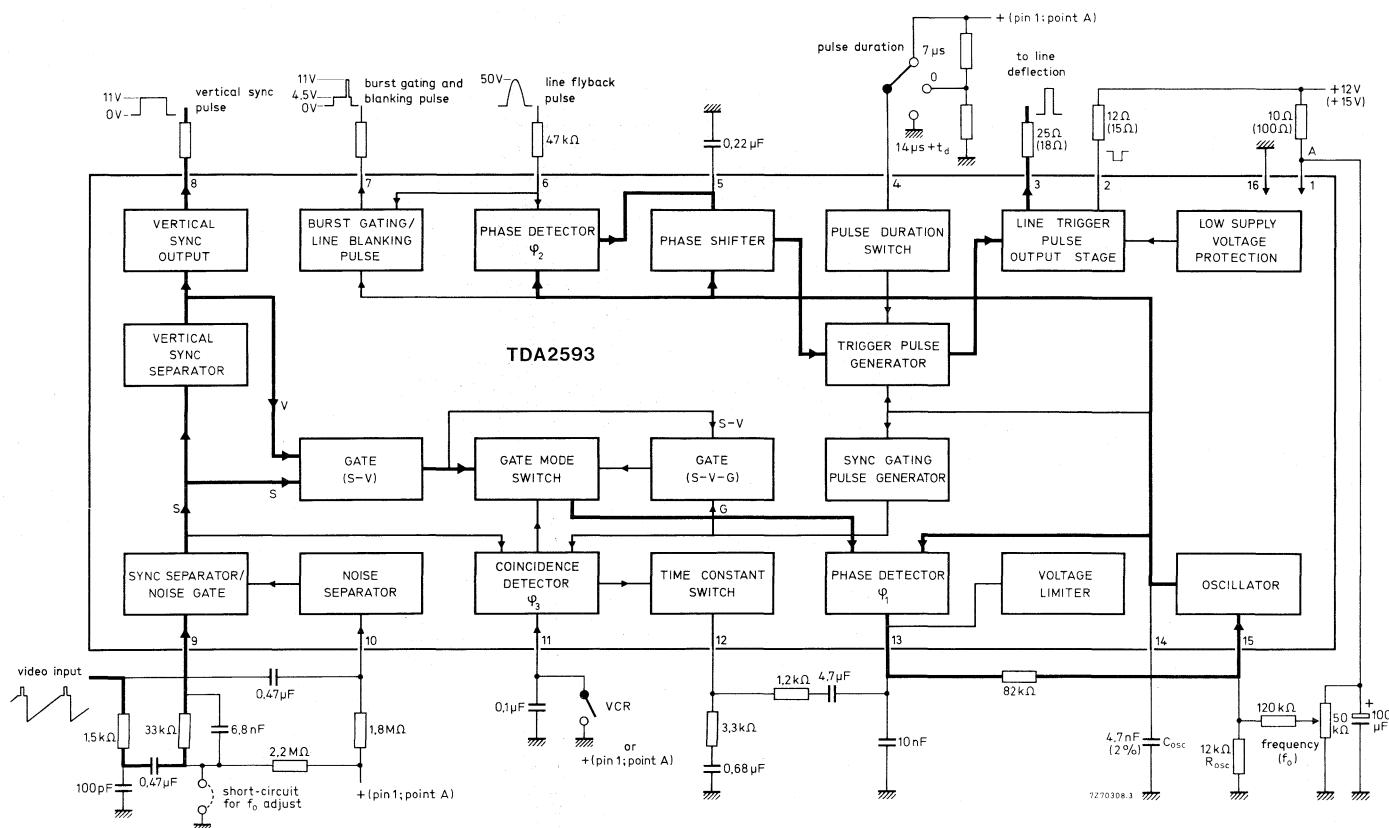

Fig. 1 Block diagram.
**CHARACTERISTICS** at V1-16 = 12 V; Tamb = 25 °C; measured in Fig. 1